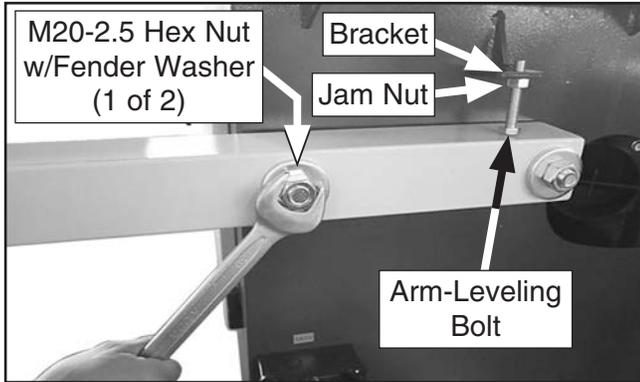

Figure 53. Securing arm-support base.
60. Adjust arm-leveling bolt until arm support base is parallel with floor (see **Figure 53** on **Page 35**).
- 61. Tighten jam nut against bracket (see **Figure 53**) to secure arm-leveling bolt.
- 62. Secure arm-support base with (2) M20-2.5 hex nuts and (2) 20mm fender washers (see **Figure 53**).